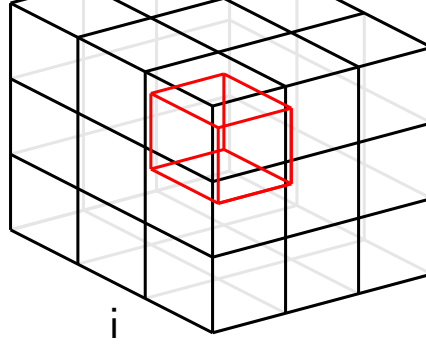

Figure 3: Cell with its neighbours
The angular parts proportionate as (13). Each cell has 26 neighbours (Fig. 3). The approximation is done by whole set of single subtractions from the cell in all directions.